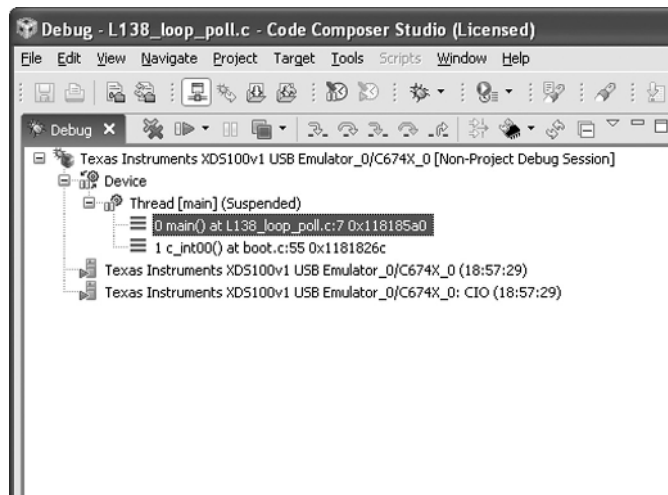

Figure 1.14 Debug view as it should appear in the *Debug* perspective after loading executable file L138_loop_poll.out.
- (15) Click *OK* and the *Debug* view should change to that shown in Figure 1.14, indicating that the program has been loaded.
- (16) Execute the program by selecting *Target > Run* or by clicking on the green *Run* toolbar button in the *Debug* window.